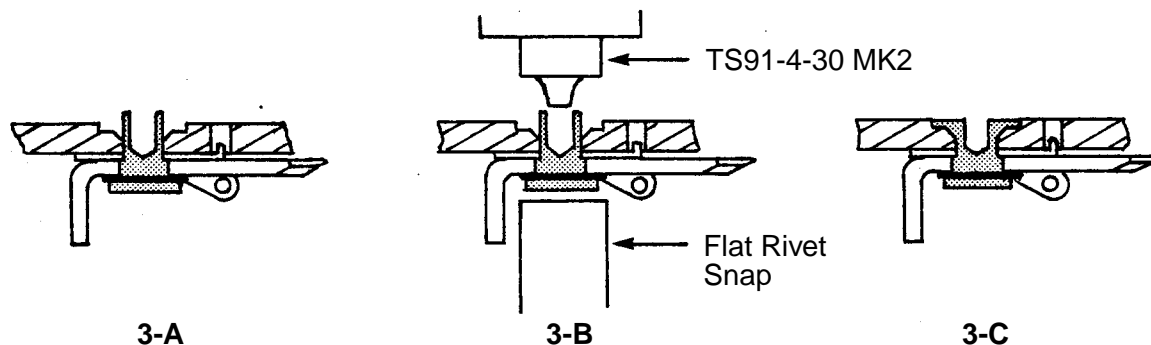

Figure 3 - Installation of Slide Assembly with a MS21332-31 Rivet
- 5.3.1 Attach the slide assembly with a MS21332-31 rivet as follows (see Figure 3):
- Step 2. Insert the rivet into the slide assembly and the prepared rivet hole as shown in Figure 3-A.
- Step 4. Clinch the rivet using a squeeze riveter with a TS91-4-30 MK2 riveting tool and flat rivet snap (see Figure 3-B and Figure 3-C).